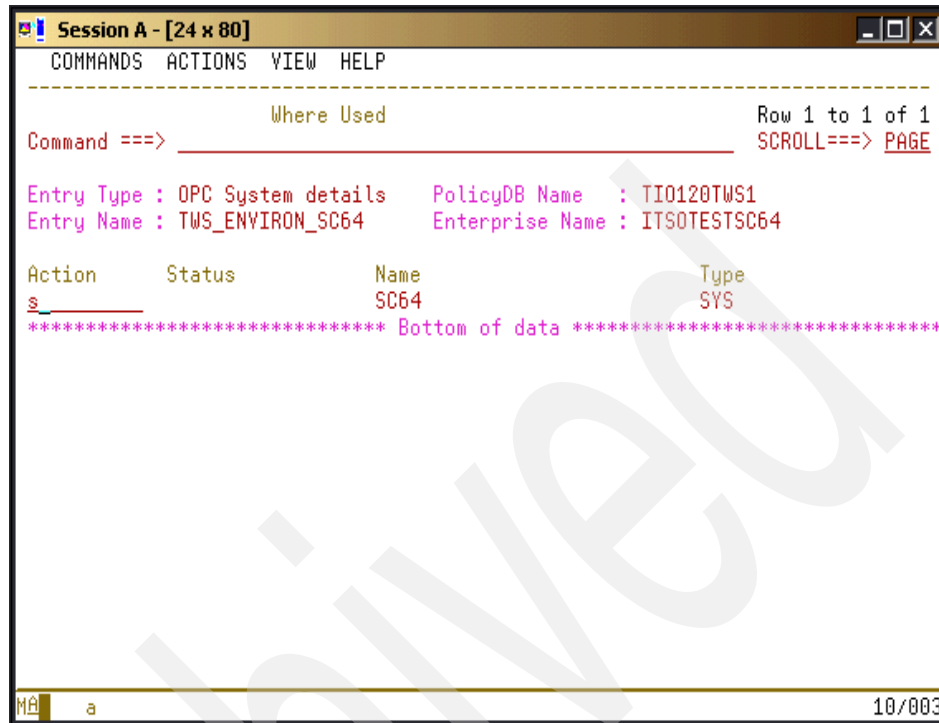

Figure 4-52 OPC System Details Where Used panel
5. Place an s in the Action field for the WHERE USED. The Where Used panel that is shown in Figure 4-52 on page 158 displays.